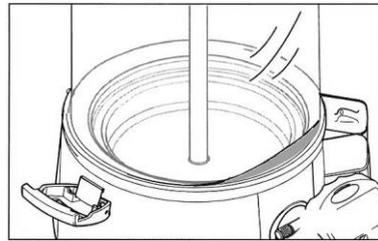

Fig. 35
6. In Fig. 35 an incorrectly fixed tank is shown; in this case, the tank does NOT rest evenly along the entire edge of the base.